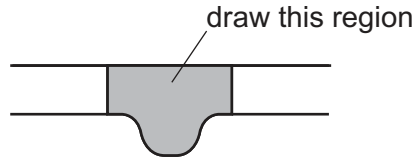

Fig. 2.1
- (a) (i)** Draw a large plan diagram of the region of the leaf on **M1** indicated by the shaded area in Fig. 2.1.